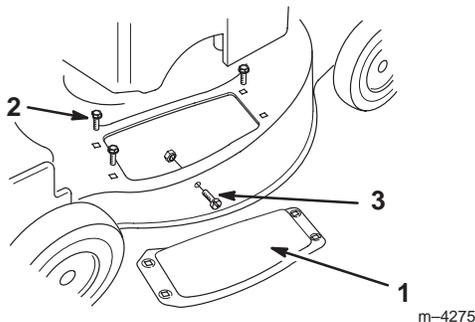

Figure 36
4. Remove and save the three bolts that secure the discharge cover to the lawn mower (Fig. 36). Save the cover and bolts for future use.
2. Bolt (3)
5. Remove the screw and nut from side of the lawn mower (Fig. 36). Save them for future use.